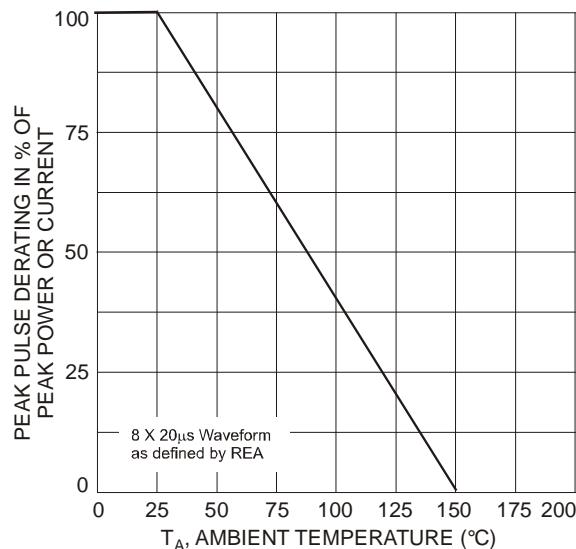
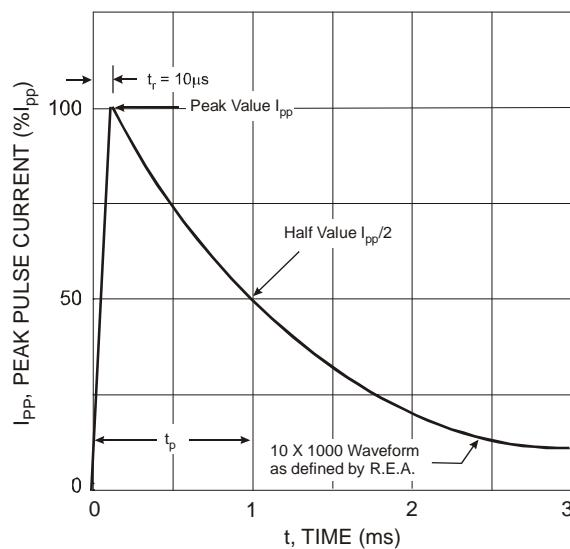
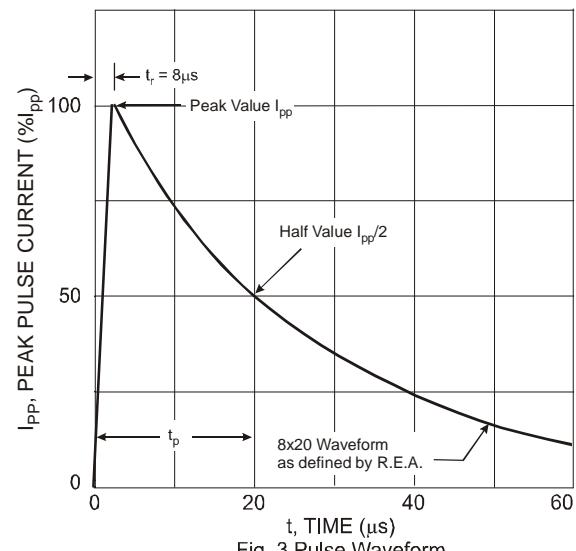

Fig. 1 Pulse Derating Curve
Fig. 2 Pulse Waveform
Fig. 3 Pulse Waveform
Notes: 5. Non-Repetitive current pulse as shown in figure 2 and derated above  $T_A = +25^\circ\text{C}$  as per figure 1.
6. Non-Repetitive current pulse as shown in figure 3 and derated above  $T_A = +25^\circ\text{C}$  as per figure 1.